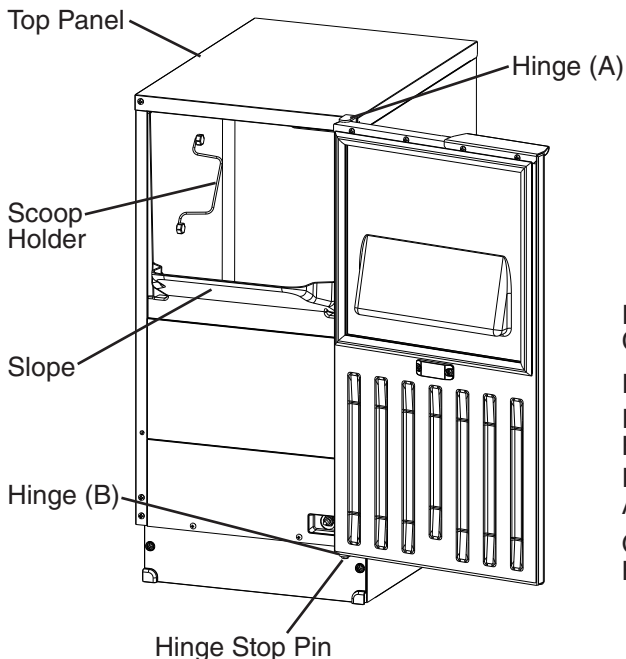

Fig. 13
- 3) While maintaining a hold on the door, remove the hinge stop pin from hinge (B). Pull out the bottom of the door slightly, then gently remove the door from hinge (A). See Fig. 13.